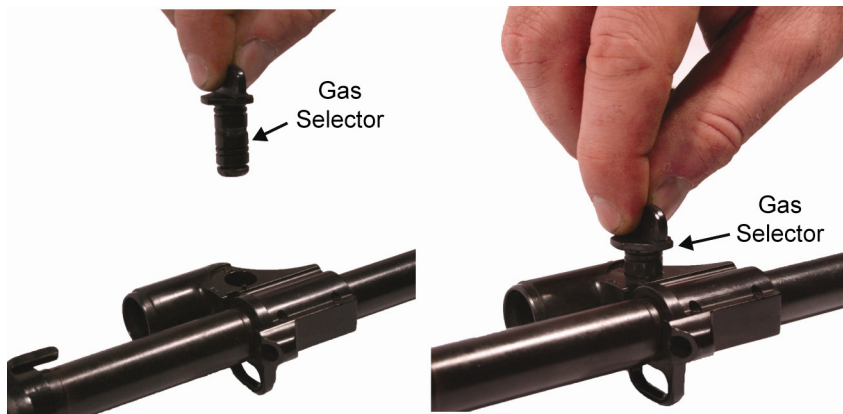

Figure 75. Installing the Gas Selector.
- a. Install the gas selector from the right side of the gas block. Refer to Figure 75.